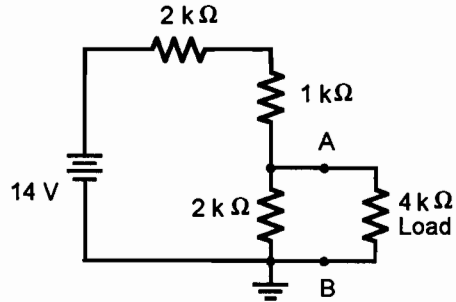

Figure 2.4
3. Determine the Thevenin voltage and resistance for Figure 2.4.